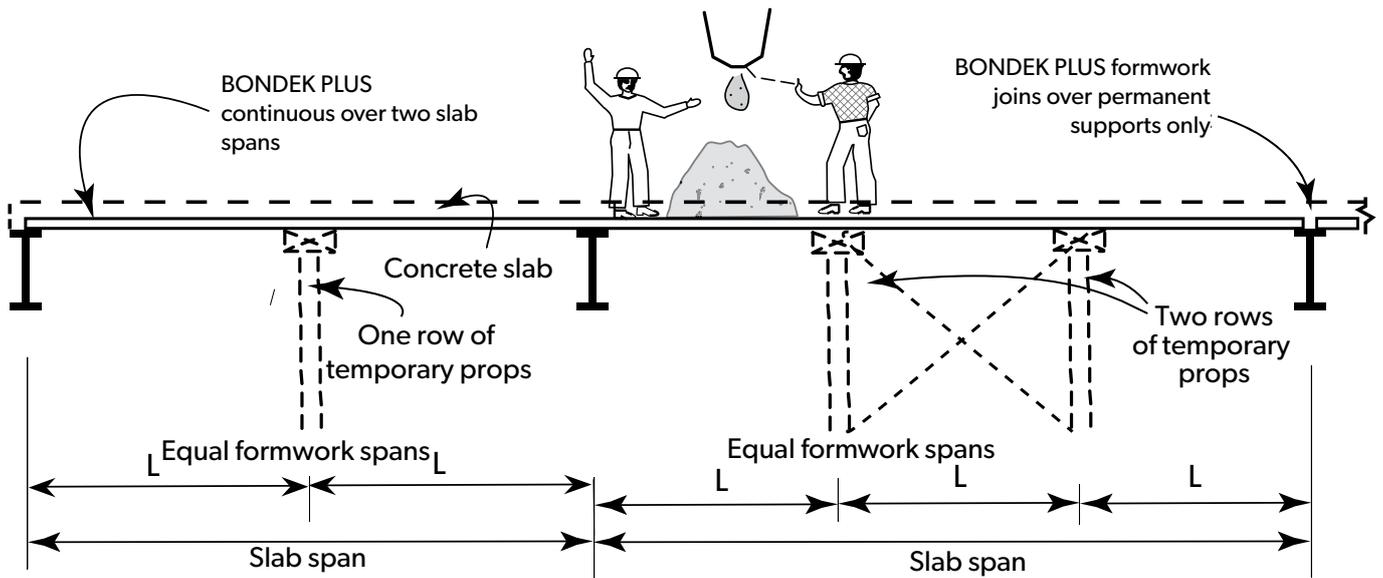

FIGURE 2
LYSAGHT BONDEK PLUS™ sheets continuous over two (2) or more slab spans (FIGURE 2)